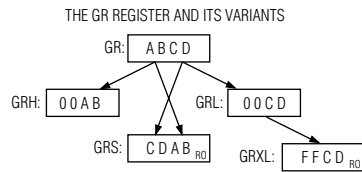

Figure 3. The GR register supports byte extraction, byte-swapping, and 16-bit sign extension.
The General Register (GR) aids in the extraction of individual bytes from a 16-bit word. A programmer can use GR to assemble bytes into a word: load the low byte into GRL (General Register–Low byte), the high byte into GRH (General Register–High byte), and read the assembled word in GR. Alternately, a programmer can use the GR register to decompose a word into its constituent bytes. A word loaded into GR can be read in a byte-swapped format in GRS (General Register–Swapped). Finally, a byte loaded into the GRL register can be sign-extended to a word by reading GRXL (General Register eXtend Low byte). See **Figure 3**.